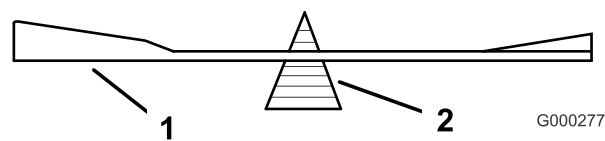

Figure 80
2. Check the balance of the blade by putting it on a blade balancer (Figure 80).